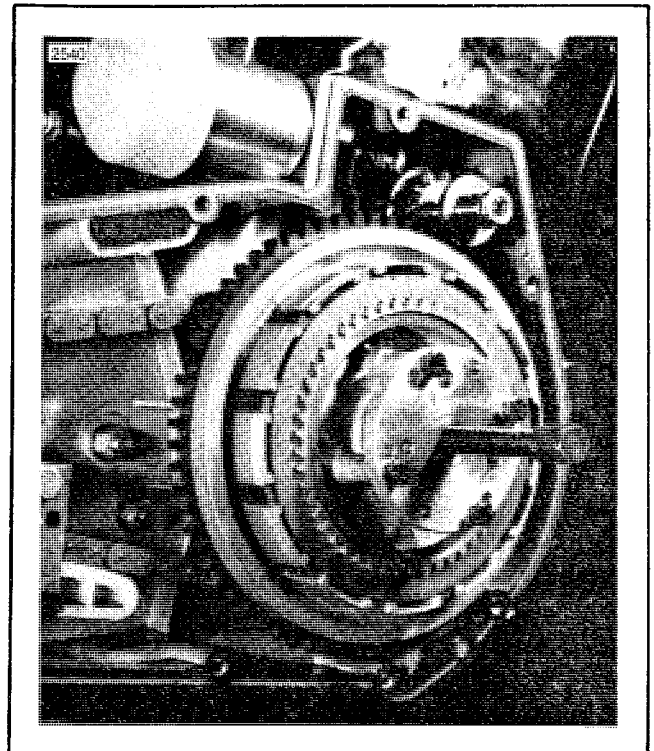

Figure 10. Pulling Clutch Hub Drum Assembly
4. Attach the Harley-Davidson CLUTCH PULLER, Part No. HD-95960-52B to the clutch hub. See Figure 10.